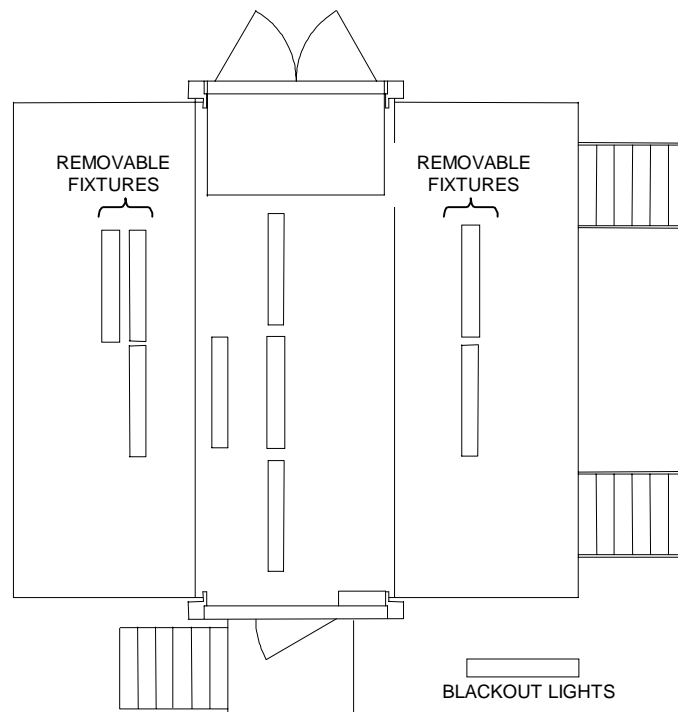

Figure 14. Ceiling Light Fixture Layout.
1. Unpack the removable light fixtures from their storage box and position them as shown in Figure 14. Install the lights by slipping the hooked brackets at the ends of the fixtures between the fabric and the arches. Orient each fixture so the end with the power cord is toward the designated receptacle.